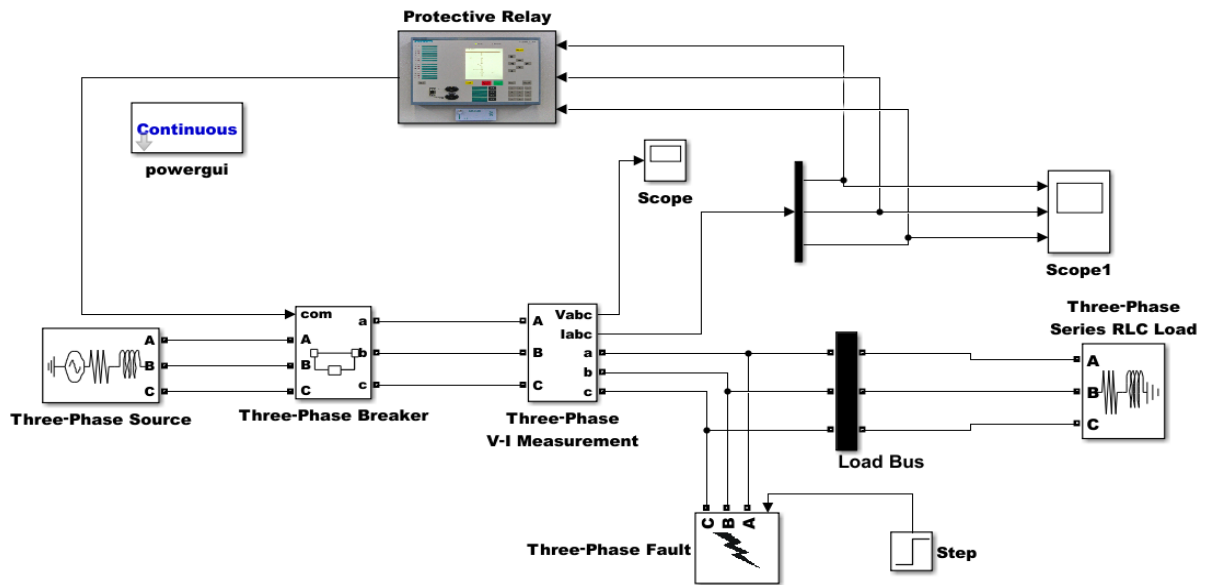

Figure 2: General schematic diagram of the system
5. The relay is designed in subsystem and seen as black box, but the inner configuration is shown in Figure 2.